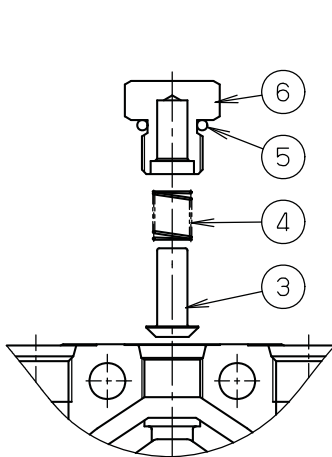

Fig.4 Check valve
Standard type check valve (see Fig.4)
- ① Hold the control valve body at workbench or hold it by two or more people.
- ② Loosen and remove check valve plug (⑥) at the center of the control valve upper surface with 19 mm screw wrench or socket wrench. When it is hard to loosen the plug because O-ring (⑤) bites the screw, do not loosen forcibly; refasten it once and then try to loosen again.
- ③ From the hole where check valve plug has been removed, remove check valve spring (④) and check valve (③) with tweezers or magnet.
- The numbers in fig.4 are the same as those in the dozer component. In the specifications and drawings.